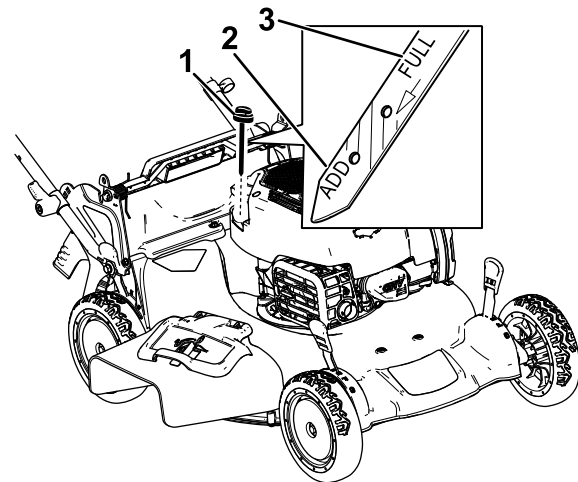

Figure 12
2. Remove the dipstick by rotating the cap counterclockwise and pulling it out (Figure 12).
5. Read the oil level on the dipstick (Figure 12).
- If the oil level on the dipstick is too low (Figure 12), carefully pour a small amount of SAE 30 or SAE 10W-30 detergent oil into the oil-fill tube, wait 3 minutes, and repeat steps 3 through 5 until the oil on the dipstick is at the correct level.
- If the oil level on the dipstick is too high (Figure 12), drain the excess oil until the oil on the dipstick is at the correct level; refer to Changing the Engine Oil \(page 23\).